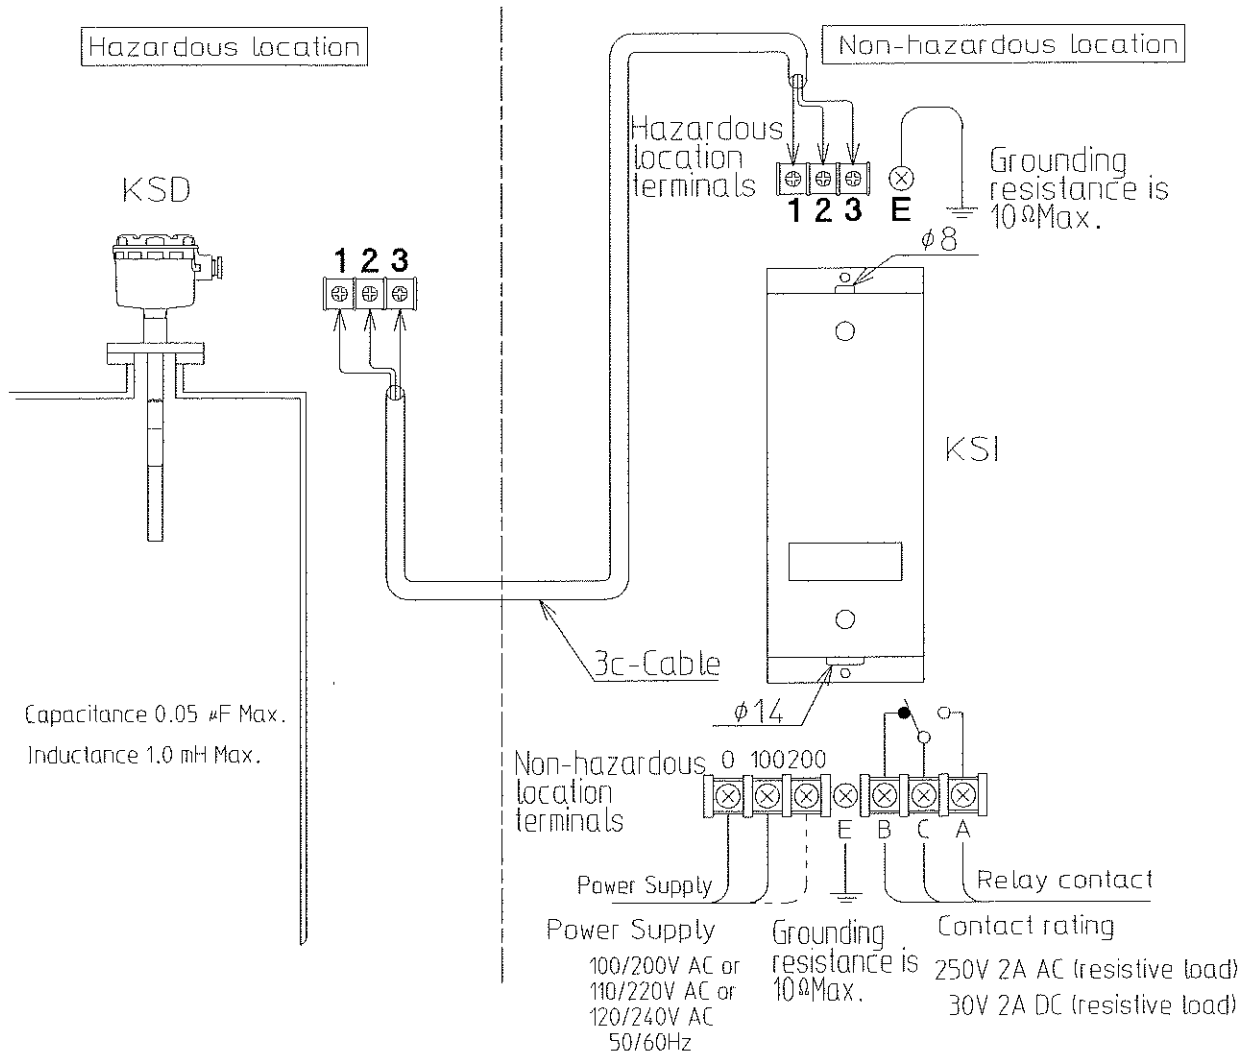

Fig. 2
- 5.3 If the wiring work is completed, perform wiring in accordance with Fig.2.
- Improper output connections Recheck with reference to Fig.2 connection diagram under chapter 5. WIRING.
- Improper output connections Recheck wiring with reference to Fig.2 connection diagram under chapter 5. WIRING.